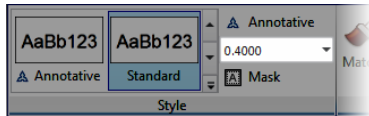

FIGURE 12.60: Changing the height of the centerline symbol
- Highlight it, and change its height from 0.2000 to 0.4000 in the Text Height text box in the Text Style panel, as shown in Figure 12.60.